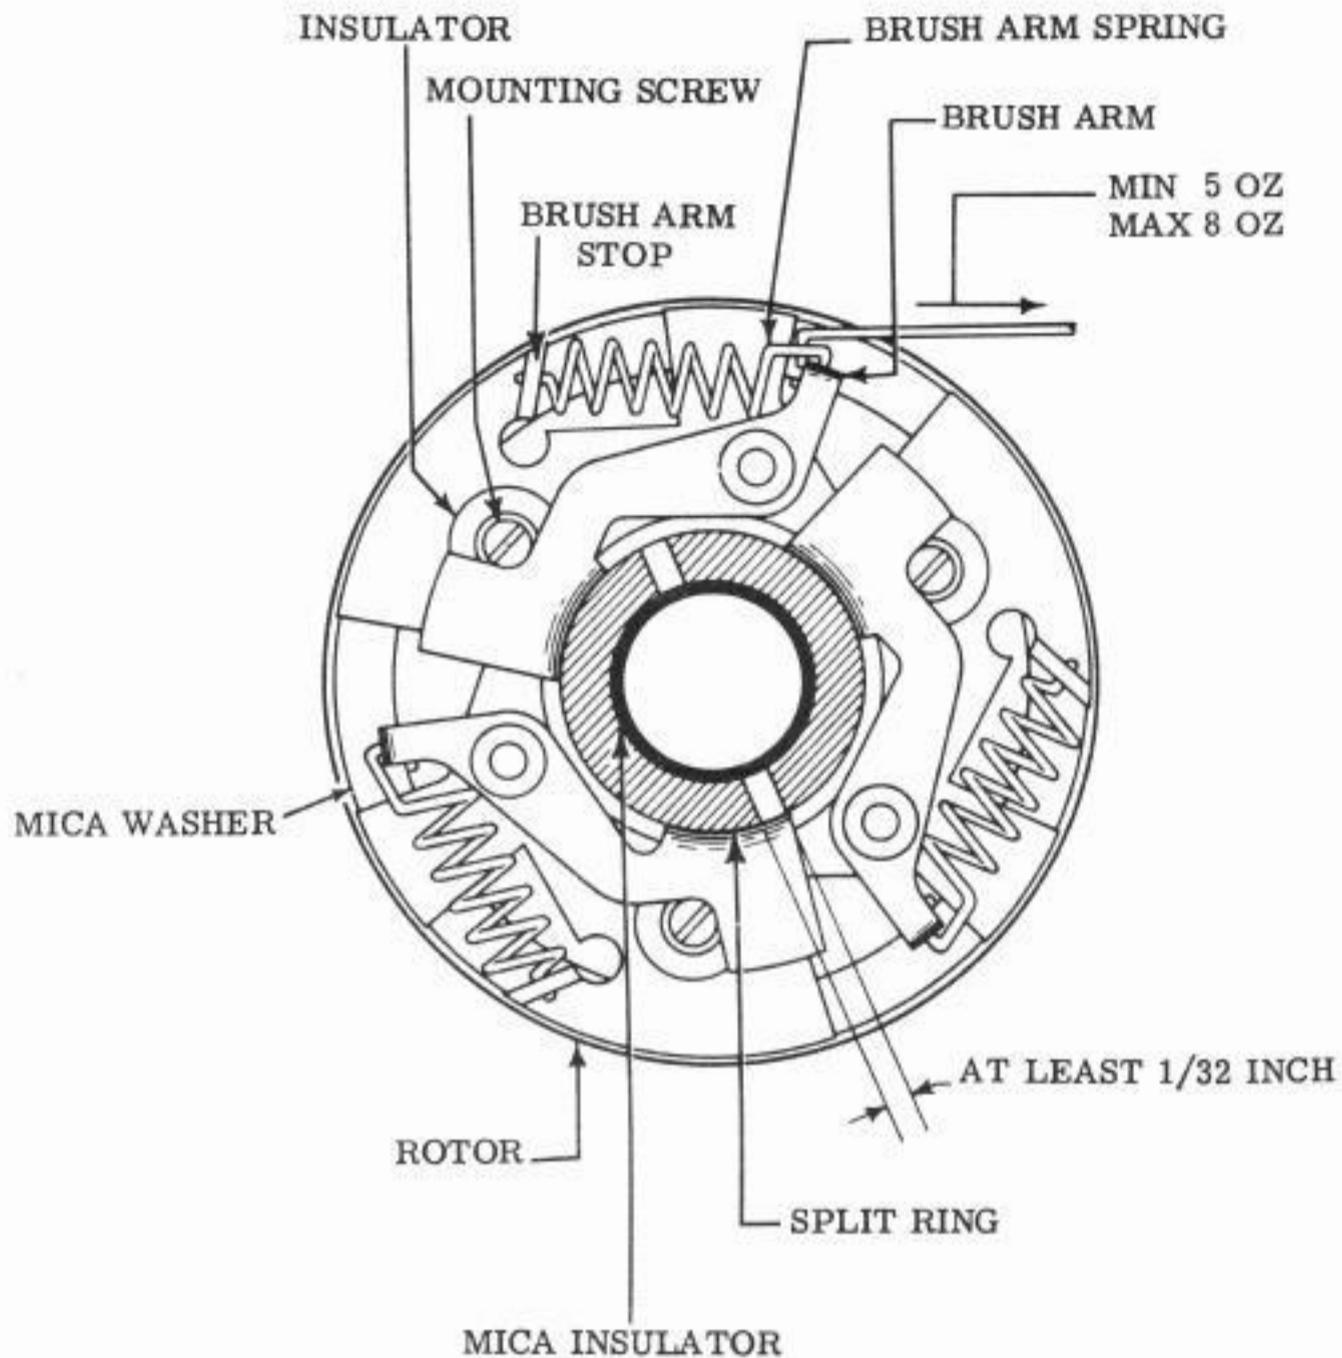

Figure 3 - Old-style Starting Switch on H.C. Motor
- (b) Three-brush Starting Switch (Old-style) on H.C. Motor (See Figure 3): To disassemble, detach motor from its associated apparatus, and remove pinion and motor fan (if provided). Remove the starting-switch split-ring screws, the end-shield screws, the bearing retainer screws, and the end shield. Remove the bearing-retainer screws from the pinion end shield of the motor and pull out the rotor until the starting-switch is easily accessible.
- (1) Brush-arm Spring Tension: It shall require minimum 5 ounces, maximum 8 ounces, to just pull the brush arm against its stop when the brushes are resting on the commutator (split ring) and the rotor is held so that the spring being checked is in a horizontal position. Repeat check for each brush-arm spring.
- (2) Brush arms shall be free and without bind, the retaining washers in place, and the end of the brush-arm mounting post safely riveted to secure the retaining washer. If retaining washers are missing or the mounting post is not safely flattened, do not attempt to flatten the mounting post but replace the assembly.
- (3) The starting-switch split ring shall be free from excessive pits or burns, the gap between its segments minimum 1/32 inch and the mica insulator on its inner surface securely glued and intact. If the split ring is burned or pitted, remove the rotor bearing, unsolder the wires attached to the split ring, and slip the split ring from the rotor shaft. Wrap a piece of 400A Aloxite around the split ring and rotate back and forth until the burned spots or pits are removed. If burns or pits are too deep, the mica insulator is loose or mutilated, or the gap between the segments is less than 1/32 inch, replace the commutator. Place the split ring on the rotor shaft and reassemble the rotor bearing.
- (4) Starting-switch brush-assembly mounting screws shall be tight and their fiber insulators free of breaks or cracks. Broken or cracked insulators shall be replaced.